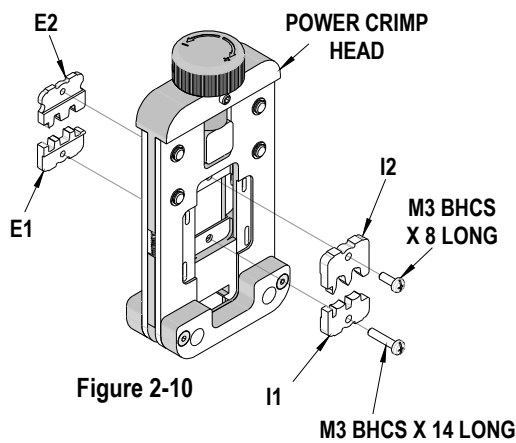

Figure 2-10
2. Insert the Anvils or dies (E1 and I1) into the bottom slots of the nest. Install the M3 x 14 long BHCS and lightly tighten in place. See Figure 2-10.